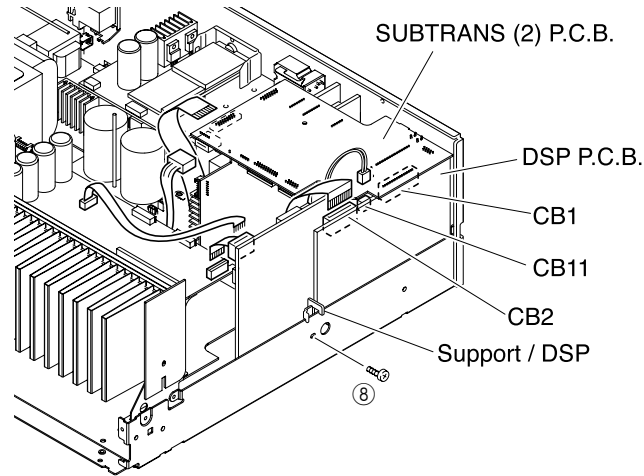

Fig. 2
- a. Remove 1 screw (⑧). (Fig. 2)
- c. Remove CB2 and CB11. (Fig. 2)
- d. Lift up the SUBTRANS (2) P.C.B. and remove the CB1. (Fig. 2)
- e. Remove the DSP P.C.B. with the Support/DSP. (Fig. 2)